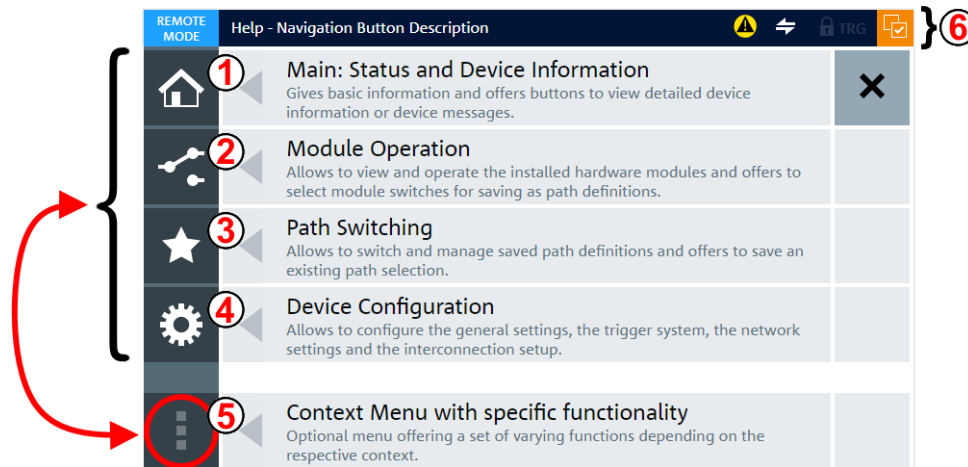

Figure 6-6: Main elements of the graphical user interface (GUI)
The "**Context Menu**" button calls specific functionality for any of the menu items shown above and listed as (1) to (4) in Figure 6-6. Hence, this button is always used **together** with one of the other buttons.
The status bar is shown on top in Figure 6-5 and Figure 6-6.